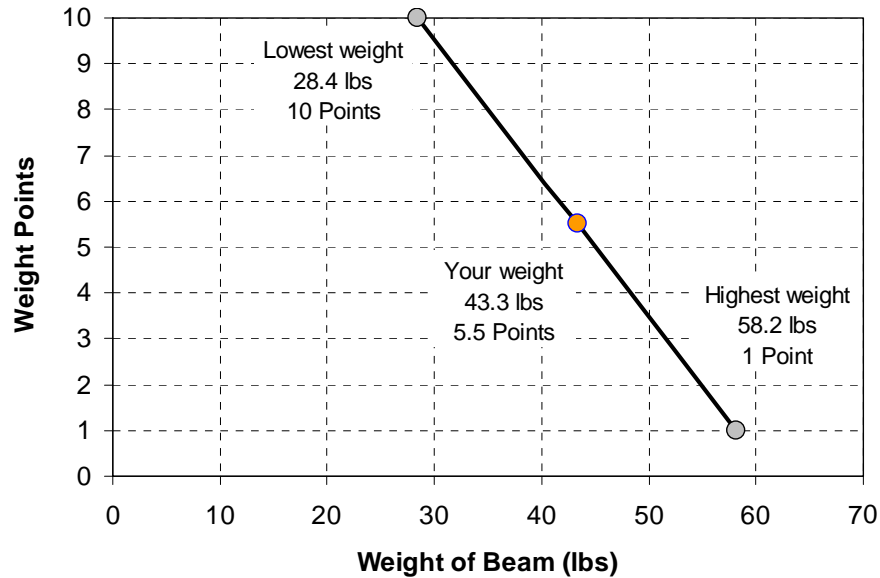

Figure 1: Example Calculation of Weight Points
- 6.3 The team with the lowest beam weight will be awarded 10 points. The team with the highest beam weight will be awarded 1 point. All other points will be determined using Equation 1 and rounded to the nearest 0.1. An example of the weight points awarded is shown in Fig. 1.